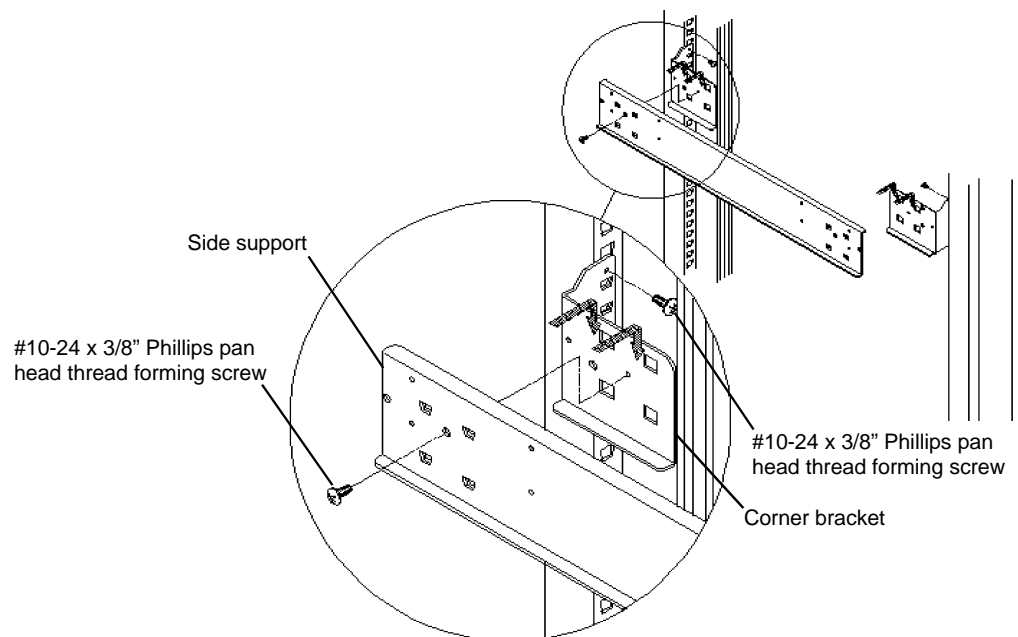

Figure 3
Secure each Bracket with a #10-24 x 3/8" Phillips pan head screw. See **Figure 3**.
3. Connect one **Side Support** to each pair of corner Brackets. The hooks on the Rail must engage the rectangular slots in the Brackets. See **Figure 3**.
4. Secure the Side Supports to the rear corner Brackets by installing one #10-24 x 3/8" Phillips pan head thread forming screw into each corner Bracket. See **Figure 3**.